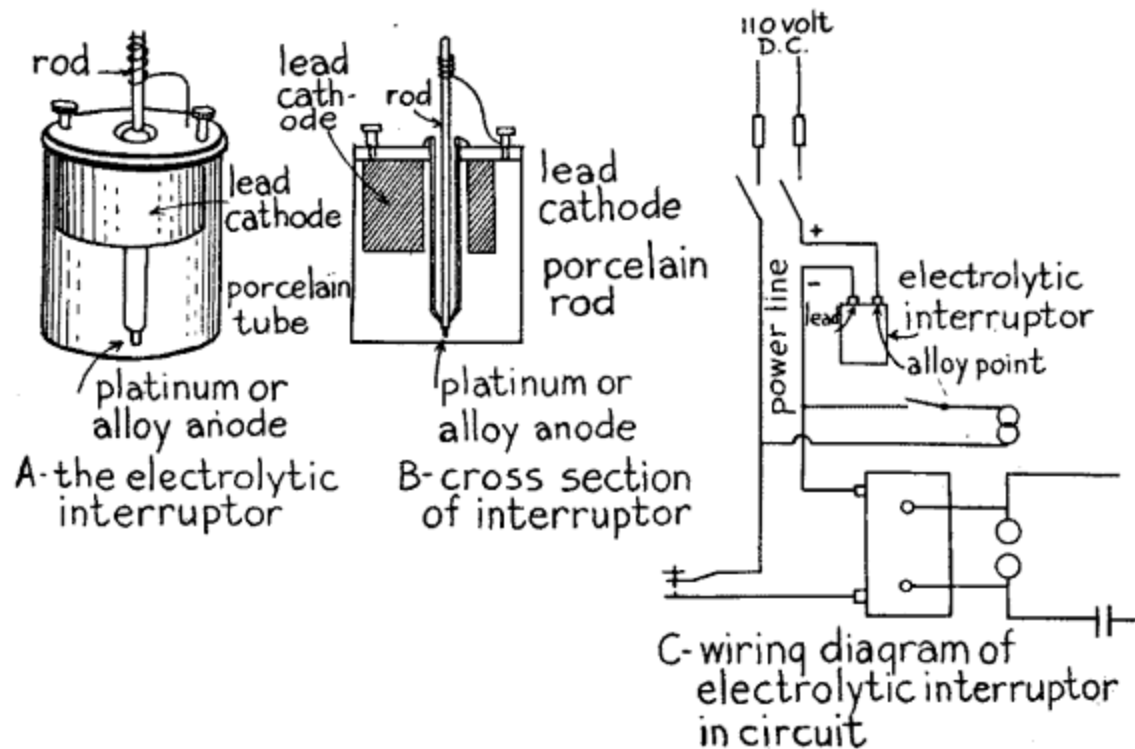

FIG. 23.—Using 110 Volt Direct Current with an Alternating Current Transformer.
For Direct Current.--Where you have 110 volt direct current you must connect in an electrolytic interrupter. This interrupter, which is shown at A and B in Fig. 23, consists of (1) a jar filled with a solution of 1 part of sulphuric acid and 9 parts of water, (2) a lead electrode having a large surface fastened to the cover of surface that sets in a porcelain sleeve and whose end rests on the bottom of the jar.